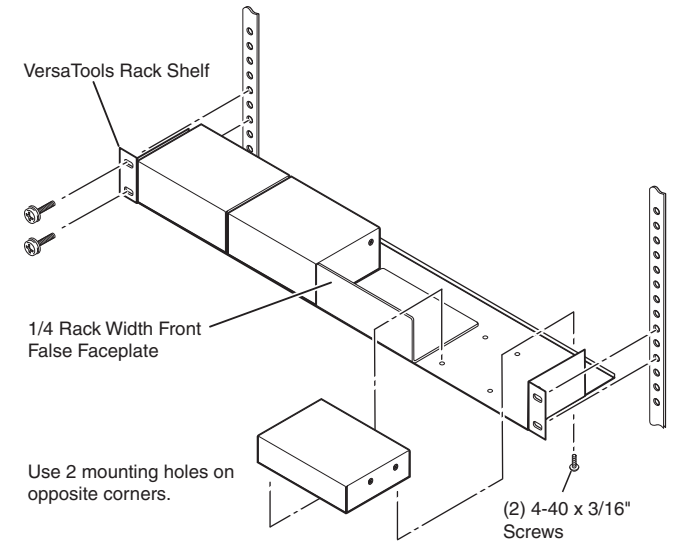

Figure 2-1 — Mounting the transmitter or receiver unit on a VersaTools rack shelf
The following Underwriters Laboratories (UL) requirements pertain to the installation of the transmitter or receiver into or onto a rack (figure 2-1).
- RSF 123 3.5" deep 1U VersaTools® rack shelf kit (part #60-190-20) (figure 2-1)